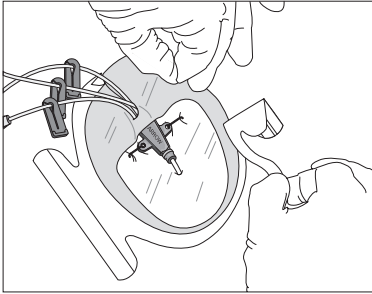

Figure 9
- Slowly remove frame while smoothing down dressing edges. Smooth dressing from center toward edges, using firm pressure to enhance adhesion (refer to Figure 9).